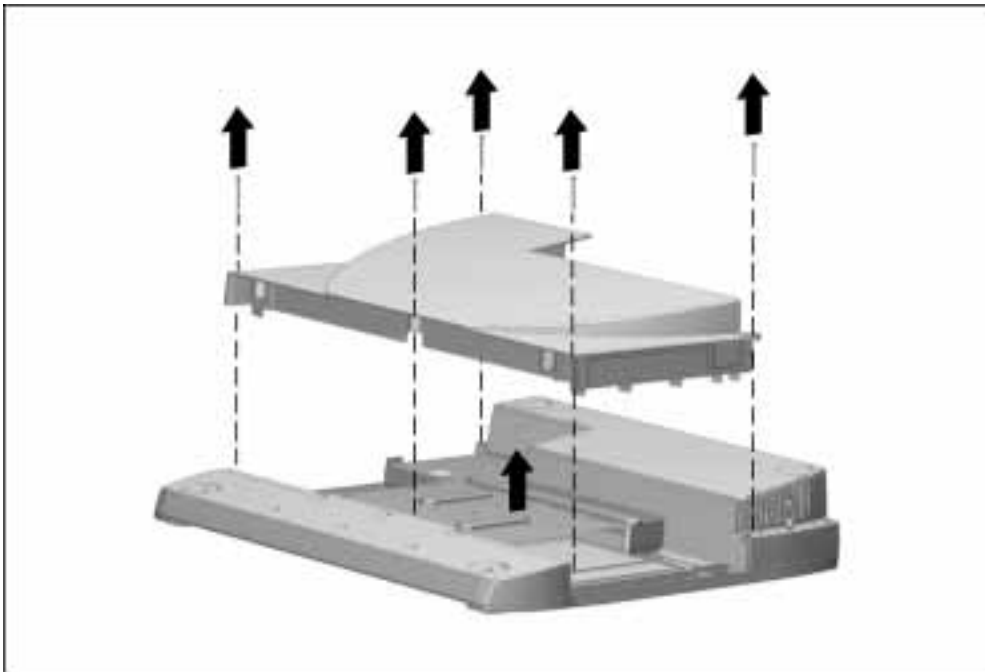

Figure 6-12. Removing the MultiBay/PC Card Assembly
3. Remove the five screws securing the MultiBay/PC Card assembly to the base assembly (Figure 6-12).